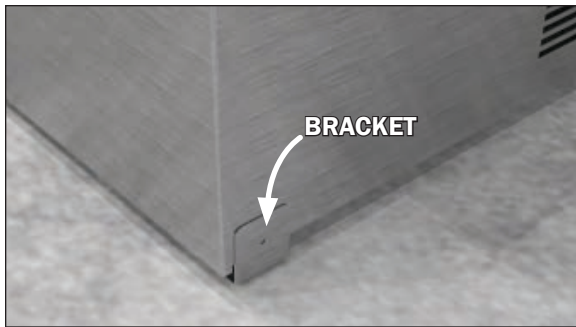

Fig. 4 Seismic anchoring locations (caster brackets)
9. (CASTERS) If necessary, attach two brackets at two separate corners of the case (Fig. 4) and fasten to the floor with concrete anchors. **Note: The brackets do not need to be affixed in the exact locations specified here. However, be sure that the anchors are close to the corners and that at least two brackets are used, one at each corner.**